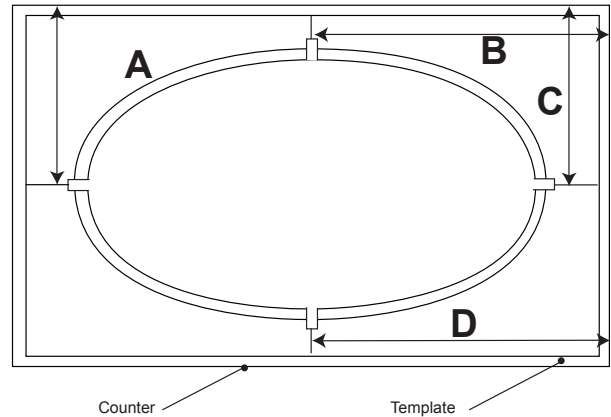

Figure 14 - Distance Measurement
- Measure the distance from the wall, or other fixed point, to the center lines (Figure 14).